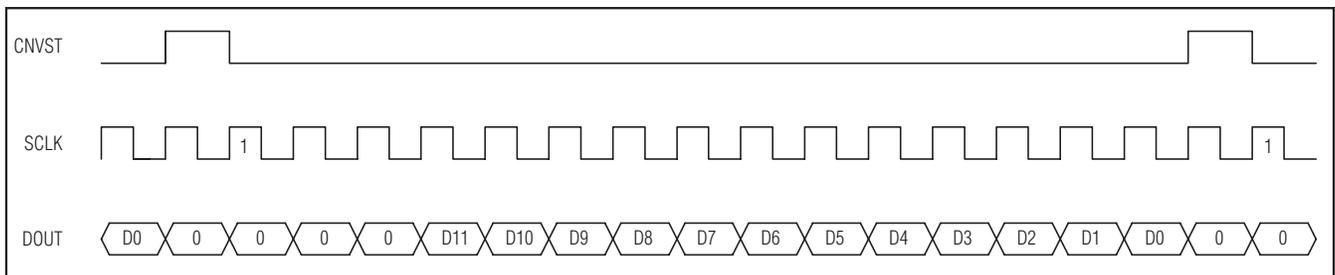
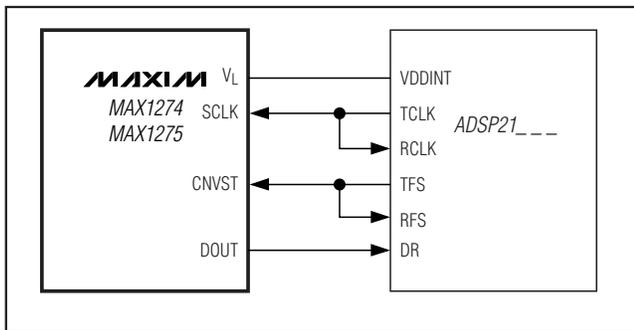

Figure 17. DSP Interface—Continuous Conversion
Figure 19. Interfacing to the ADSP21_ _ _
The MAX1274/MAX1275 can also be connected to the TMS320C54_ by using the data transmit (DX) pin to drive CNVST and the CLKX generated internally to drive SCLK. A pullup resistor is required on the CNVST signal to keep it high when DX goes high impedance and 0001hex should be written to the DXR continuously for continuous conversions. The power-down modes may be entered by writing 00FFhex to the DXR (see Figures 17 and 18).
The MAX1274/MAX1275 can be directly connected to the ADSP21_ _ _ family of DSPs from Analog Devices, Inc. Figure 19 shows the direct connection of the MAX1274/MAX1275 to the ADSP21_ _ _ . There are two modes of operation that can be programmed to interface with the MAX1274/MAX1275. For continuous conversions, idle CNVST low and pulse it high for one clock cycle during the LSB of the previous transmitted word. The ADSP21_ _ _ STCTL and SRCTL registers should be configured for early framing (LAFR = 0) and for an active-high frame (LTFS = 0, LRFS = 0) signal. In this mode, the data-independent frame-sync bit (DITFS = 1) can be selected to eliminate the need for writing to the transmit-data register more than once. For single conversions, idle CNVST high and pulse it low for the entire conversion. The ADSP21_ _ _ STCTL and SRCTL registers should be configured for late framing (LAFR = 1) and for an active-low frame (LTFS = 1, LRFS = 1) signal. This is also the best way to enter the power-down modes by setting the word length to 8 bits (SLEN = 1001). Connect the V_L pin to the ADSP21_ _ _ supply voltage when the MAX1274/MAX1275 are operating with a supply voltage higher than the DSP supply voltage (see Figures 17 and 18).